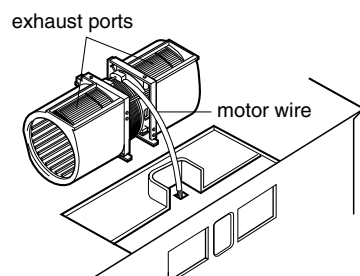

Figure 13
4. Keep the motor wire being connected, lift up, rotate and reattach the motor so that the exhaust ports face the upper of the cabinet. See figure 13.